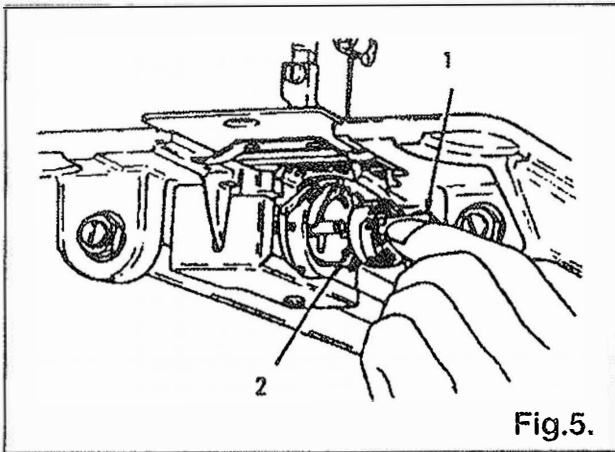

Fig.5.
- 2.Raise latch (1) (see Fig.5).
- 3.Lift out bobbin case (2) (see Fig.5).